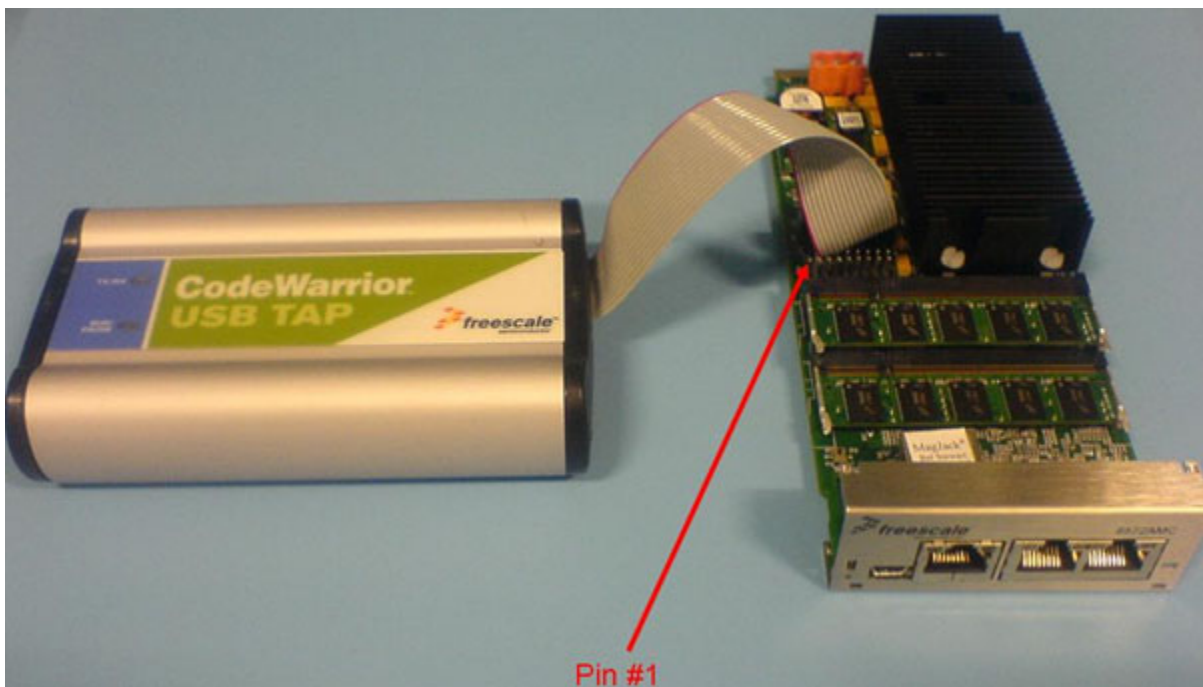

Figure 4. USB TAP Connection to Header J4
Figure 4 illustrates an example of how to connect a JTAG debugger to the MPC8572EAMC. The USB tap debugging tool enables the CodeWarrior software IDE to work with the MPC8572EAMC board.
2. Connect USB cable from Host PC (with CodeWarrior Power Architecture™ tools installed on it) to CodeWarrior USB Tap. Figure 4 illustrates Freescale’s CodeWarrior debugger connected to the MPC8572EAMC. Note the orientation of pin 1 (red edge of ribbon cable) with pin 1 on J4.